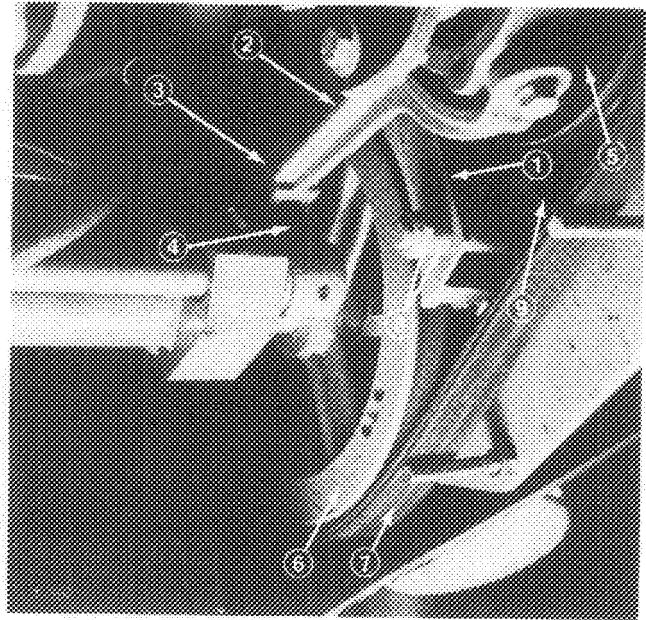

Figure 64
3. Move PTO lever to the ON position and remove PTO brake (Fig. 64).
4. Move PTO lever to the OFF position to release tension on the belt. Remove cotter pin and clevis pin from PTO fork and remove fork from PTO arm (Fig. 64). Roll old belt off engine pulley and PTO pulley (Fig. 64).
and engine pulley, making sure belt is to the inside of the three belt guides. Install PTO fork onto PTO and secure with clevis pin and cotter pin (Fig. 64).
2. Move PTO lever to ON position. Loosen adjusting locknut (Fig. 64) so brake is free to move. Move PTO lever to OFF and position the brake in grooves of pulley.
3. Tighten locknut until spacer contacts brake (Fig. 64).
pin, and slide spacer, brake and spring off the pins (Fig. 64).
2. Move PTO lever to the ON position to move pulley away from brake. Remove locknut holding brake on mounting pin, and slide spacer, brake and spring off the pins (Fig. 64).